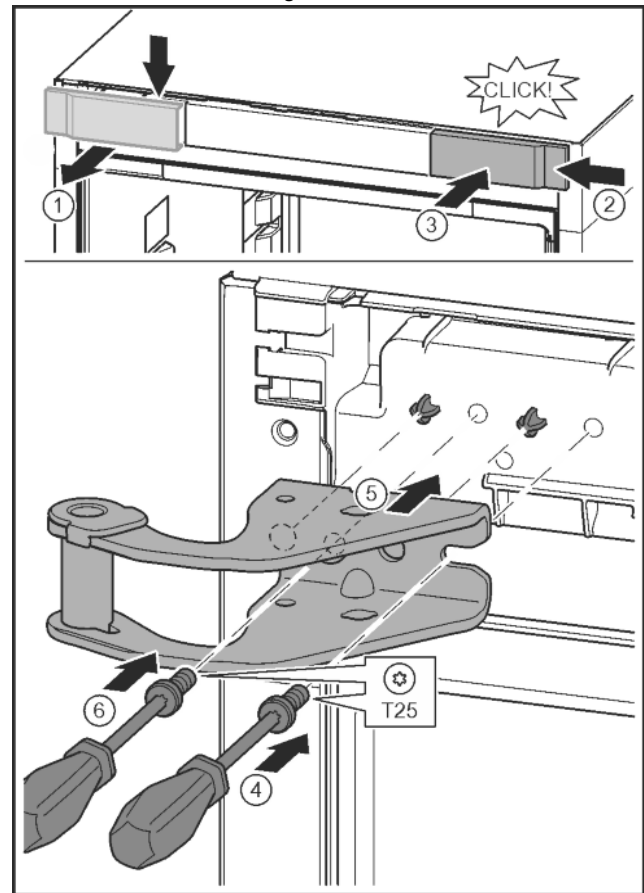

Fig. 10
- ▶ Release the cover and remove from the side. Fig. 10 (1)
- ▶ Rotate the cover 180° and clip onto the other side from the right. Fig. 10 (2)
- ▶ Click the cover into place. Fig. 10 (3)
- ▶ Position the screw with a T25 screwdriver. Fig. 10 (4)
- ▶ Position the upper bearing bracket. Fig. 10 (5)
- ▶ Tighten the screw. Fig. 10 (4)
- ▶ Insert the screw with a T25 screwdriver and tighten. Fig. 10 (6)